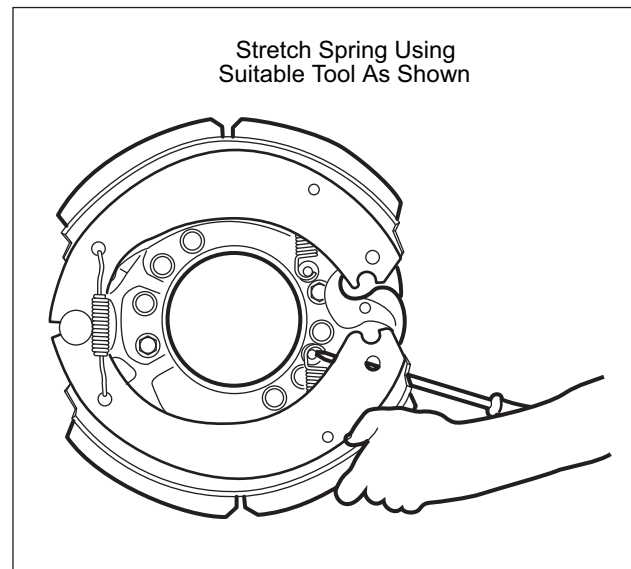

Figure 61. Shoe Return Spring Installation
6. The shoes may close rapidly when the return spring hook passes the center of the anchor pin (watch fingers.) Install a new shoe return spring. On ES-150-6D steer brake install new return springs between spring post and shoe with spring hooks towards the cam. Refer to Figure 61.